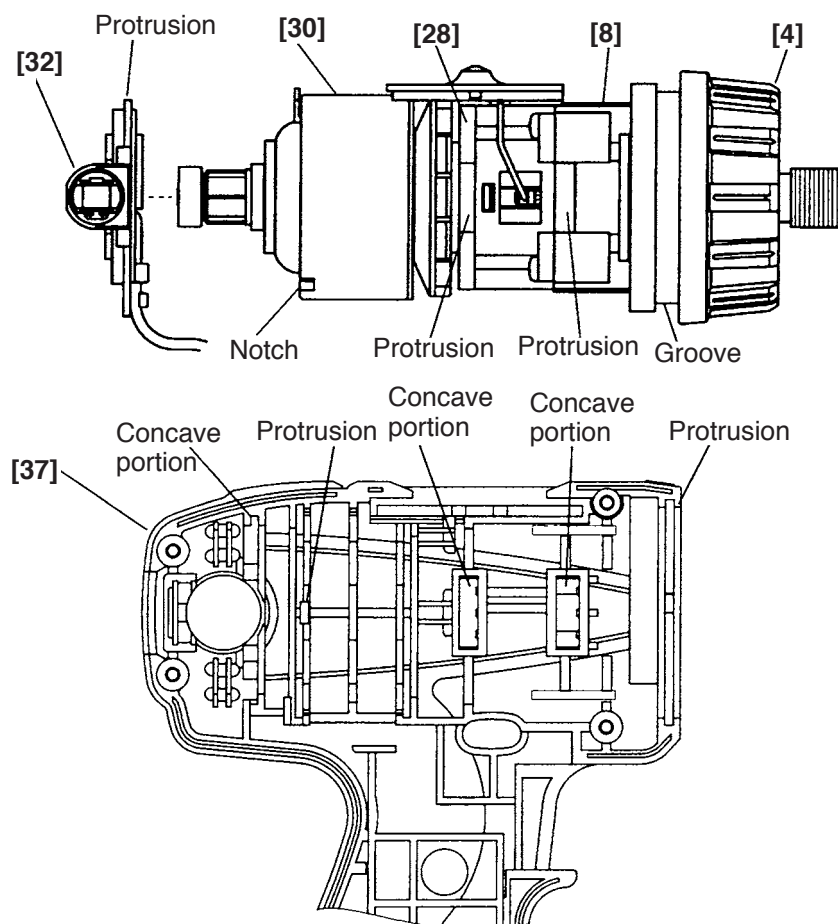

Fig. 13
(7) Reassembly of the main unit
- (a) Mount the power supply unit and the drive unit that were reassembled in the above procedure to Housing (A) [37]. At this time, align the protrusions of the Brush Block [32], Front Case [8] and Motor Spacer [28] with the concave portions of Housing (A) [37], the notch of the Magnet [30] with the protrusion of Housing (A) [37], and the groove of the Clutch Dial [4] with the protrusion of Housing (A) [37] (see Fig. 13).